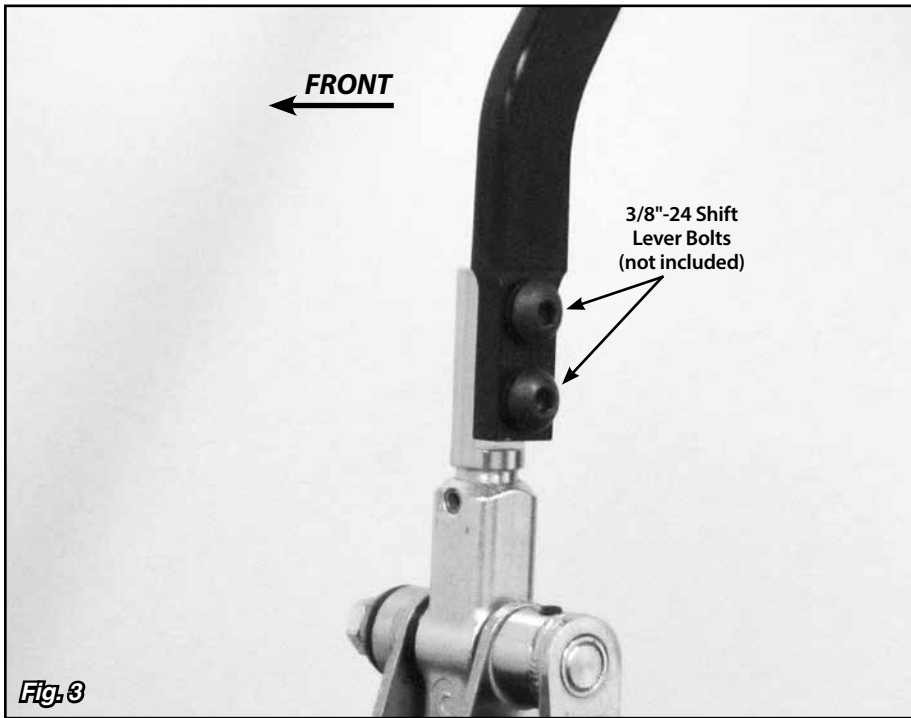

Fig. 3
Step 4: Tremec Style Lever - If your Shifter did not come with the Shifter Lever already installed, install the Shifter Lever using the 3/8"-24 bolts that came with the Shifter Lever. **Fig. 3**